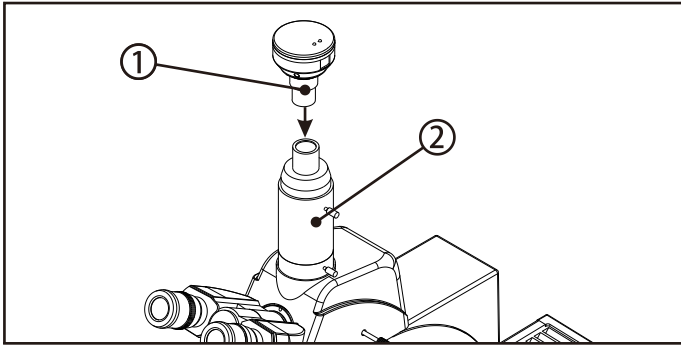

fig. 12
Insert the Camera ① into the video adapter ② (see Figure 12)